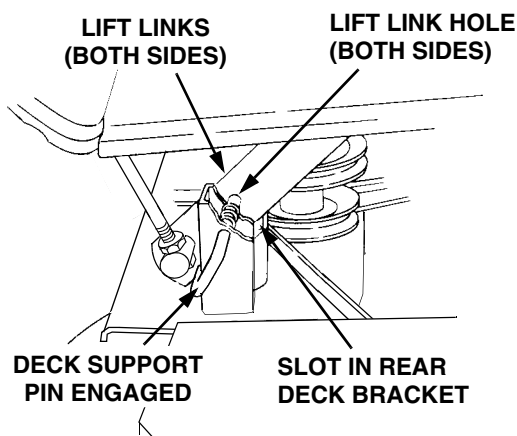

Figure 2-7
- Carefully guide the tractor implement lift links (left and right) into the rear deck bracket slots (left and right) as the tractor implement lift handle is lowered to its lowest setting (Refer to Figure 2-7).
- Pull both deck support pins outward and rotate rearward to disengage the outer surface of the rear deck brackets. Release the pins, making certain each deck support pin passes through the inner hole of the rear deck bracket. The spring tension will push the pins inward and, if aligned, through the hole in each implement lift link (Refer to Figure 2-7).